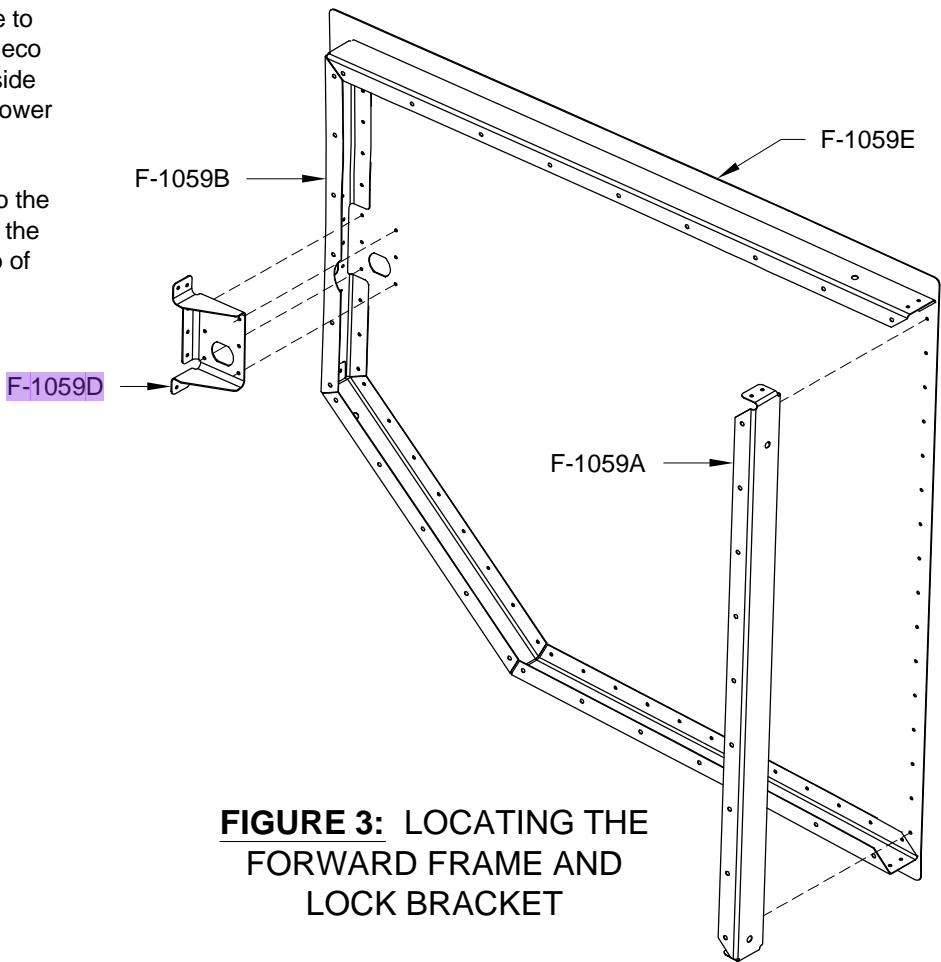

FIGURE 3: LOCATING THE FORWARD FRAME AND LOCK BRACKET
Step 5: Cleco the F-1059A Forward Frame to the F-1059E Skin as shown in Figure 3. Cleco the end tabs of the forward frame to the inside surface of the F-1059B and C Upper and Lower Frame webs.
Step 6: Cleco the F-1059D Lock Bracket to the F-1059E Skin as shown in Figure 3. Cleco the three flanges of the lock bracket to the web of the F-1059B Upper Frame.